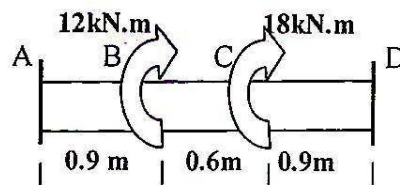

Fig. 11
- (b) The Fig. 11 shows a horizontal shaft AD subjected to torque at 'B' and 'C'. Determine : [10]